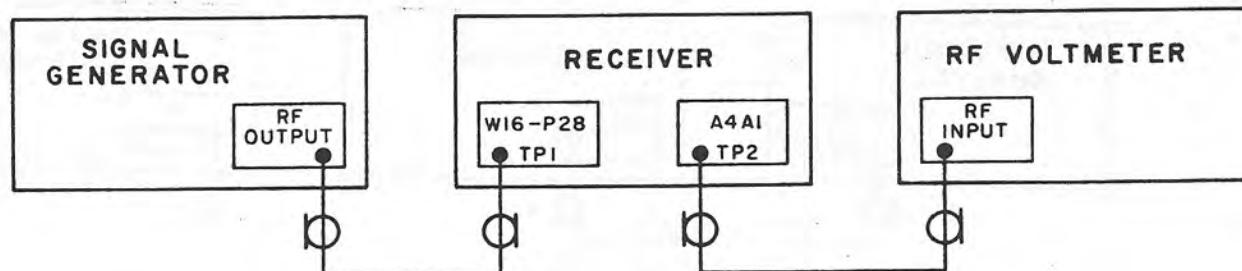

Figure 6-5. 10.7 MHz Filter Switch Gain Adjustment, Test Setup
- (g) Set up test equipment as shown in figure 6-5.
- (i) Feed 10.7 MHz unmodulated signal at -50 dBm level into P28 or the TP1 input of if. motherboard as shown in figure 6-5.